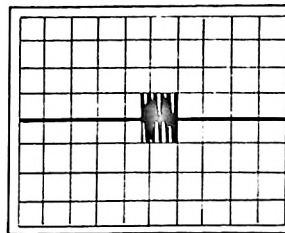

Fig. 2
- 4) Change to CH1, and set TIME/DIV to 0.5 msec, and view the index timing waveform as shown in Fig. 2, and make sure it is within $1700 \mu\text{s} \pm 1700 \mu\text{s}$.